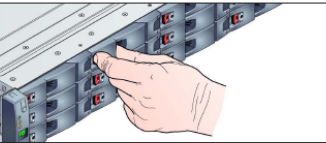

Figure 2: Removing a drive module (1)
- Release the carrier handle by pressing the latch in the handle towards the right (see Figure 2).